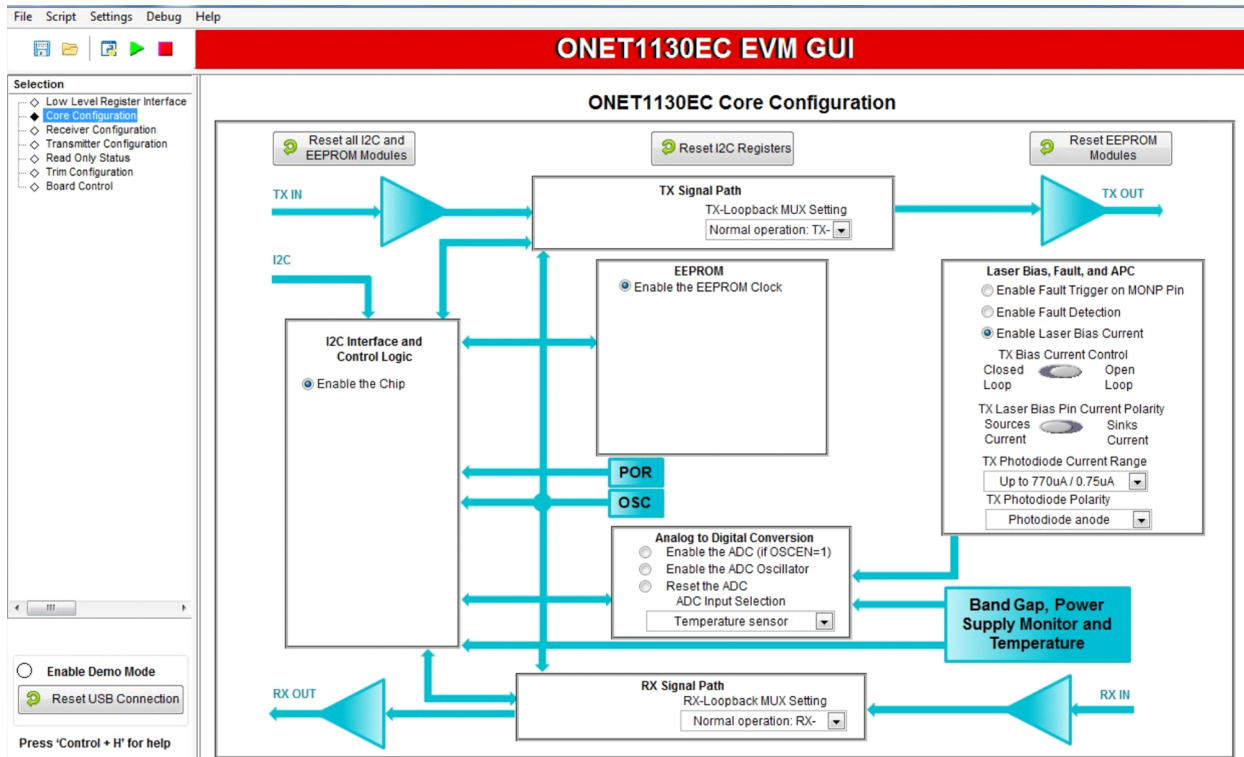

Figure 7. Core Configuration Page
2. Go to the *Core Configuration* page as shown in Figure 7.